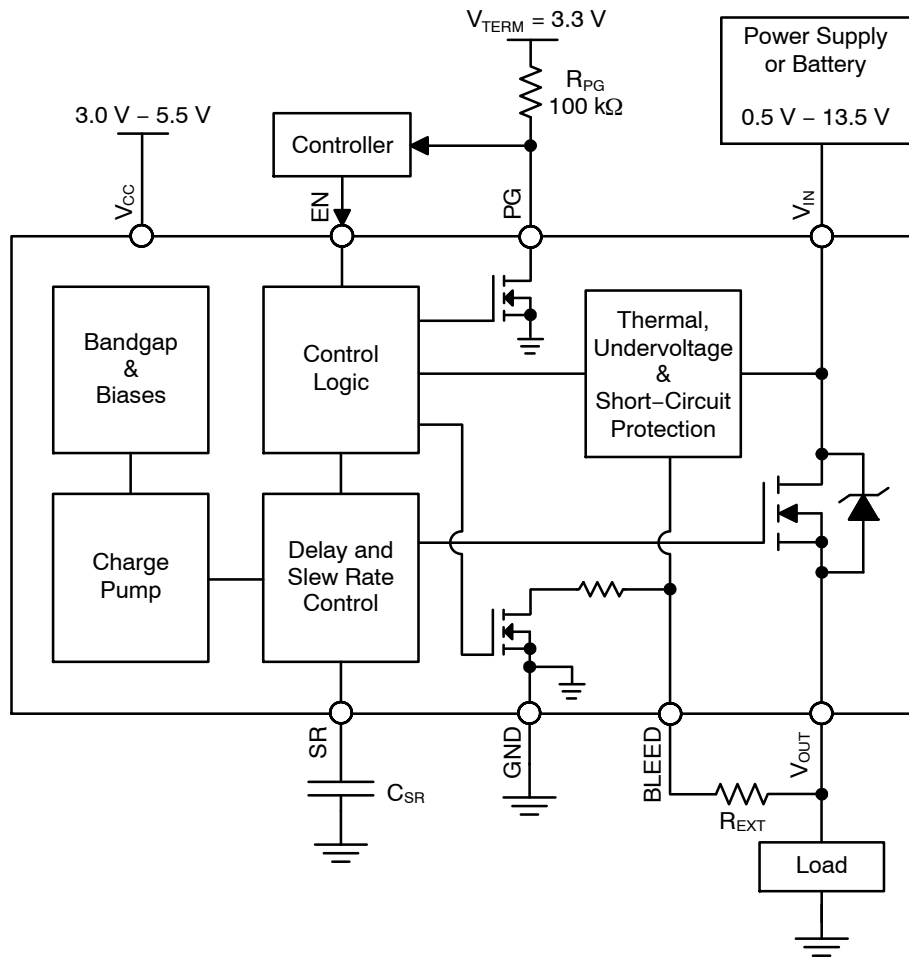
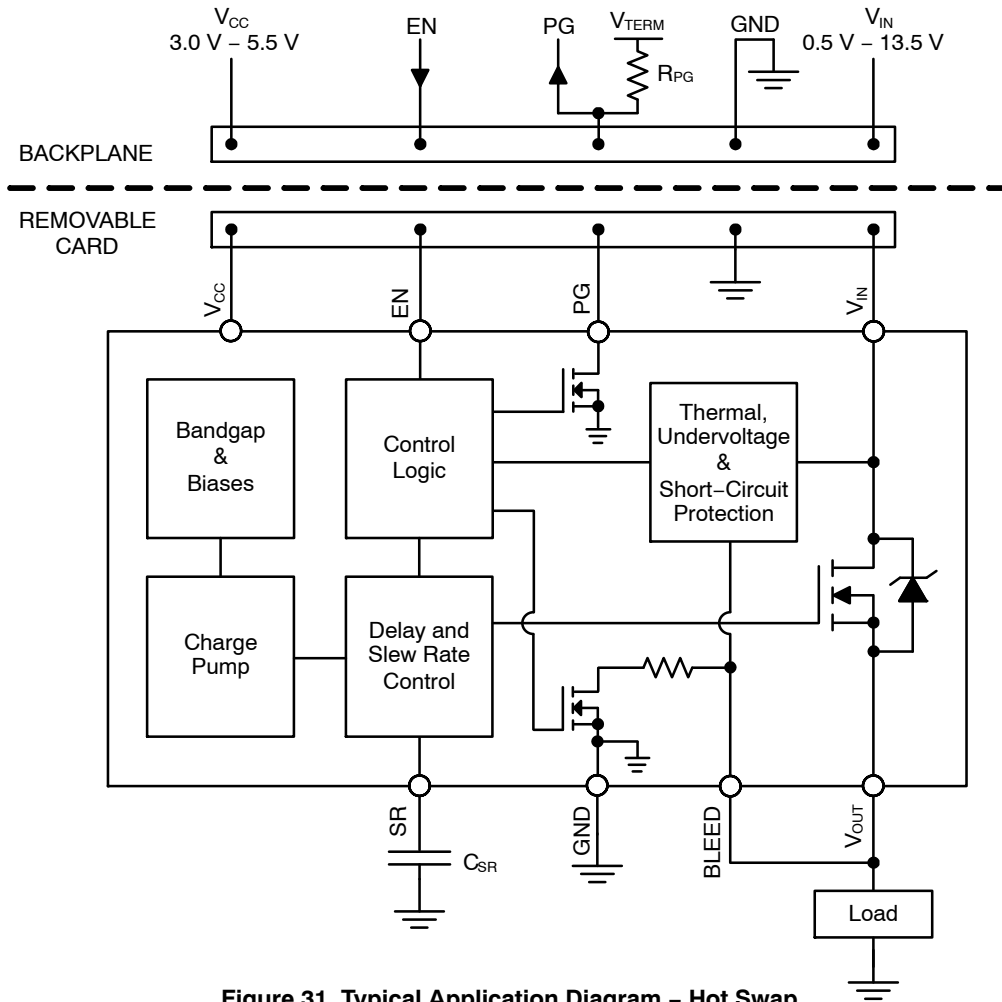

Figure 30. Typical Application Diagram – Load Switch
Figure 31. Typical Application Diagram - Hot Swap
It is required that the BLEED pin be connected to V_{OUT} either directly (as shown in Figure 31) or through an external resistor, R_{EXT} (as shown in Figure 30). R_{EXT} should not exceed 1 kΩ and can be used to increase the total bleed resistance.
The NCP45560 devices have a power good output (PG) that can be used to indicate when the gate of the MOSFET is fully charged. The PG pin is an active–high, open–drain output that requires an external pull up resistor, R_{PG}, greater than or equal to 1 kΩ to an external voltage source, V_{TERM}, compatible with input levels of other devices connected to this pin (as shown in Figures 30 and 31).
The slew rate can be decreased with an external capacitor added between the SR pin and ground (as shown in Figures 30 and 31). With an external capacitor present, the slew rate can be determined by the following equation:
Once active, the circuitry monitors the difference in the voltage on the V_{IN} pin and the voltage on the BLEED pin. In order for the V_{OUT} voltage to be monitored through the BLEED pin, it is required that the BLEED pin be connected to V_{OUT} either directly (as shown in Figure 31) or through a resistor, R_{EXT} (as shown in Figure 30), which should not exceed 1 kΩ. With the BLEED pin connected to V_{OUT}, the short–circuit protection is able to monitor the voltage drop across the MOSFET.